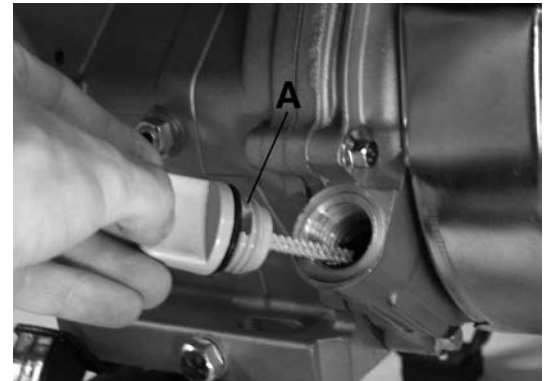

Figure 1B
- 1) Turn the oil gauge dipstick (A) Fig.1B counterclockwise, remove it and clean it with a clean cloth.